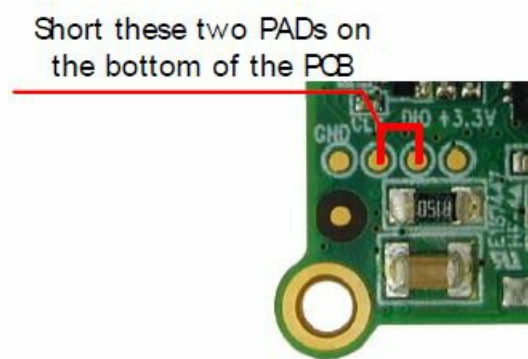

Figure 5.1 Reset to factory default settings
For this procedure two pads on the bottom side of the board have to be shorted (see Figure 5.1).
2. Short two pads as marked in Figure 5.1